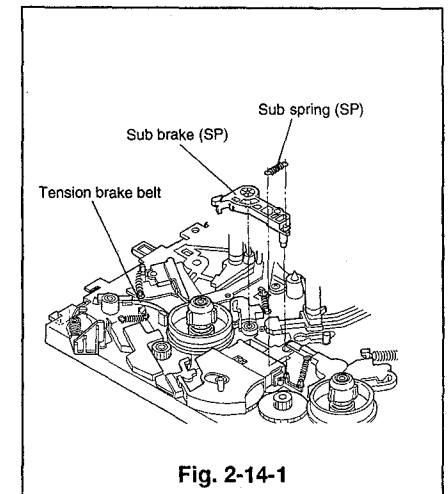

Fig. 2-14-1
- 1 Install the sub brake(SP) with care not to score the tension brake belt (without loosening of the tension brake belt). (Refer to Fig. 2-14-1)